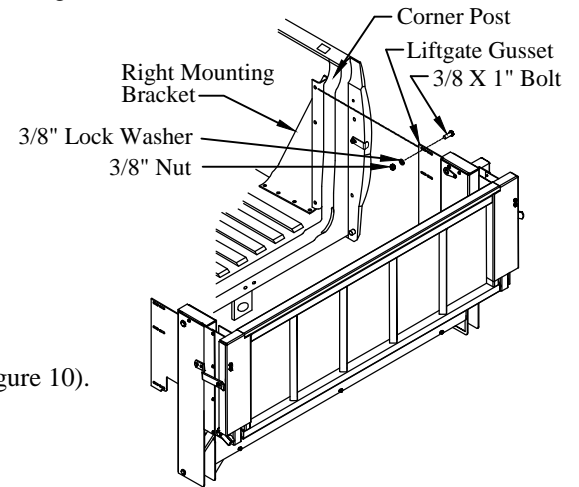

Figure 9: Mounting bracket and liftgate.
- 1. Position** the two mounting brackets into the truck bed in front of the corner posts (Figure 9).
- (3) 3/8"x1" hex head bolts on the bracket-side (Figure 9).
- (3) 3/8" lock washers, and (3) 3/8" nuts on the gusset-side (Figure 9).